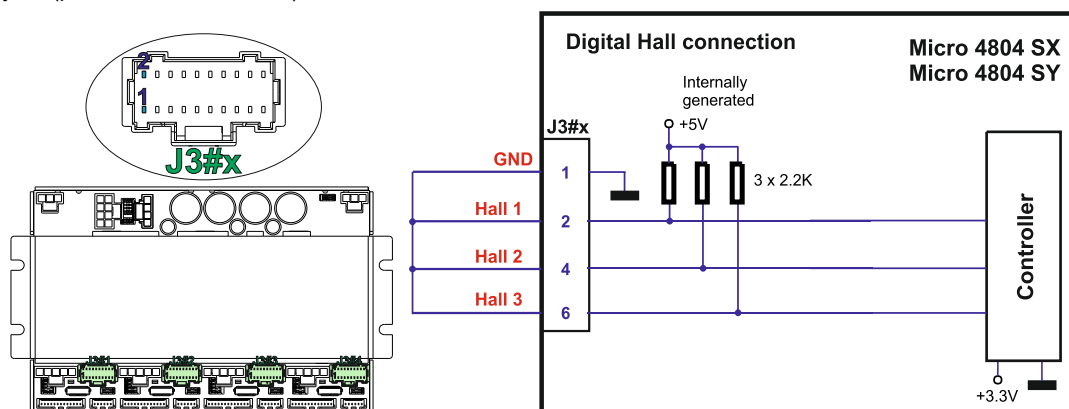

Figure 38 Temporary connection during power-on to invalidate the Setup table for Micro 4804
- Hardware2 – by temporary connecting all digital Hall inputs to GND, during the power-on for about 1 second (Figure 38). This option is particularly useful when it is not possible to communicate with the drive.